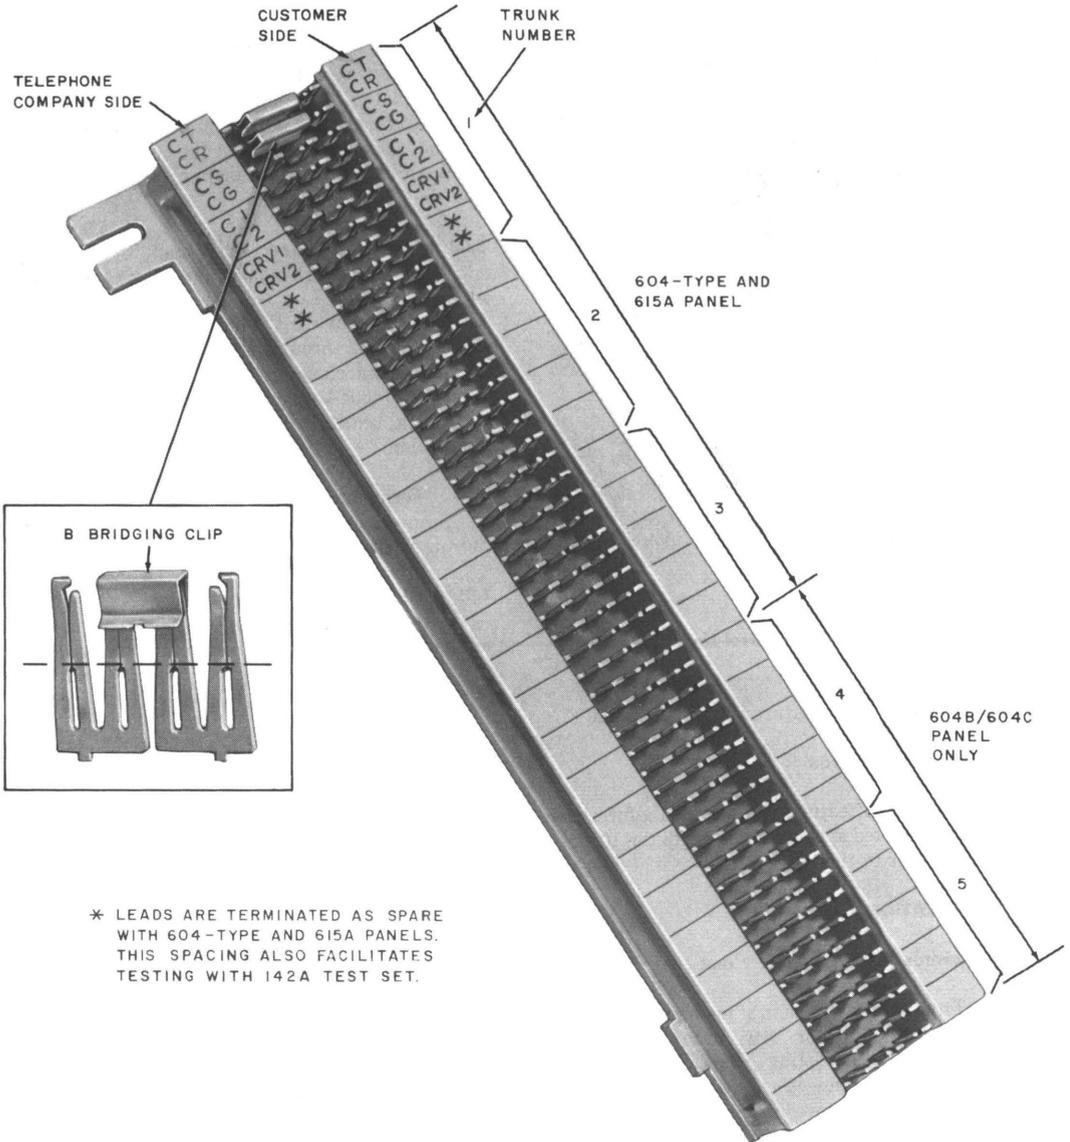

Fig. 6—66M1-50 Interface Connecting Block
- Block, Connecting, 66M1-50 (as required, Fig. 6)
- Clip, Bridging, B (25 per pkg., as required, Fig. 6)
3.05 Terminate connector cables 2, 3, and 4 at customer end on the telephone company side of the 66M1-50 interface connecting blocks located within 25 feet of panel (stencil lead designation on fanning strip, Fig. 6).
3.12 All other connections to the CPE are made to the 615A panel through a single A25B cable to an Amphenol plug on the panel as shown in Table G. Terminate the stub end of the A25B cable on the telephone company side of a 66M1-50 interface connecting block. Stencil lead designations on the fanning strip (Fig. 6).